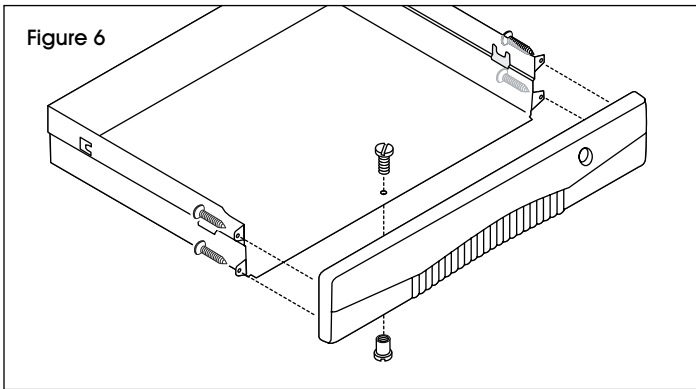

Figure 6
6. Slide drawer front onto the front of the drawer. (See Figure 6) Secure on either side using four large screws. Secure in the center using one small screw and one insert nut.